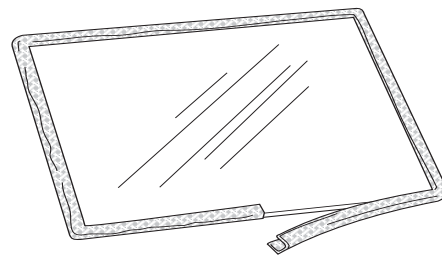

Figure 37.
3. Beginning at the center of one of the long sides, wrap the new tadpole gasket material around the new glass pane, pressing the adhesive firmly against the glass surface. See fig. 37.